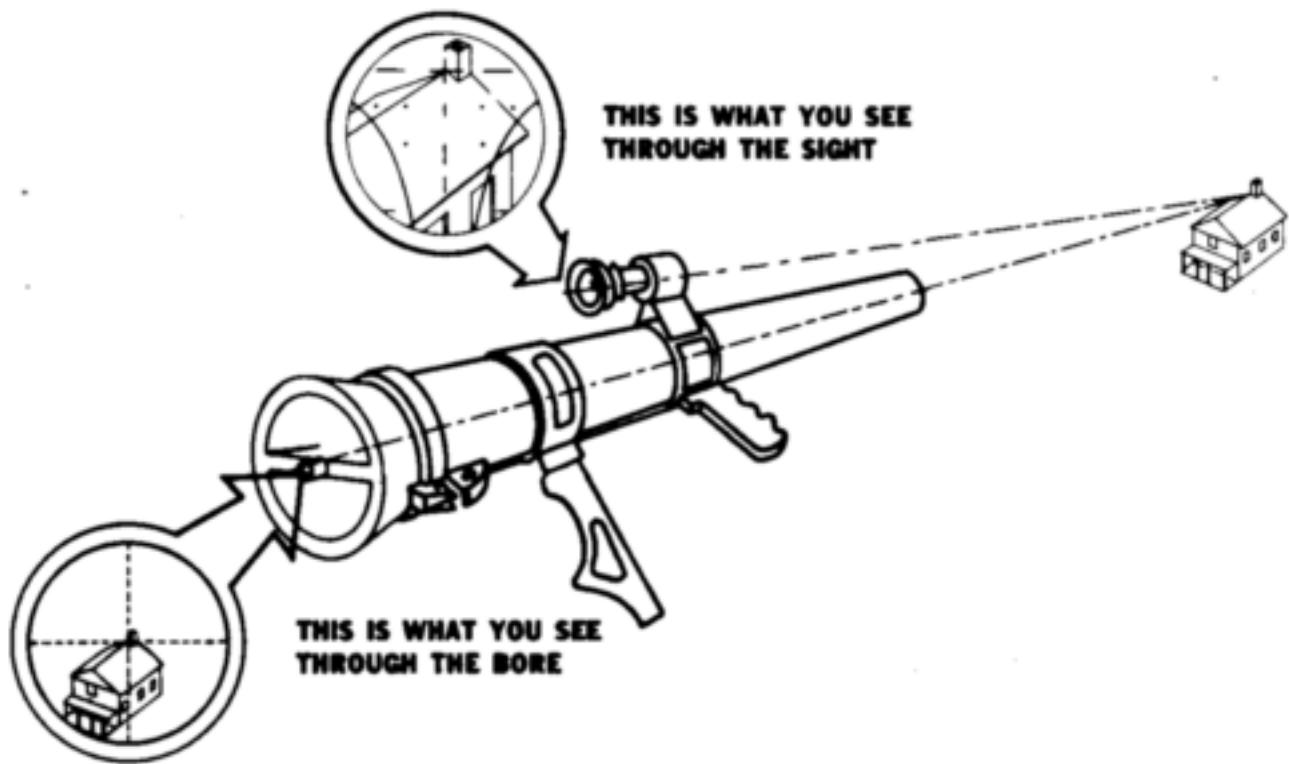

Figure 42. Sight picture in boresighting.
- e.* Look through the telescope and insure that the boresight cross of the sight reticle is aligned on the same aiming point. If the boresight cross is not aligned, bring it to the aiming point by rotating the elevating and azimuth correction screws with the screwdriver end of the combination wrench. Recheck alignment through the bore and through the sight. When the sight and the bore are properly aligned on the aiming point, the 90mm rifle is foresighted (fig. 42).